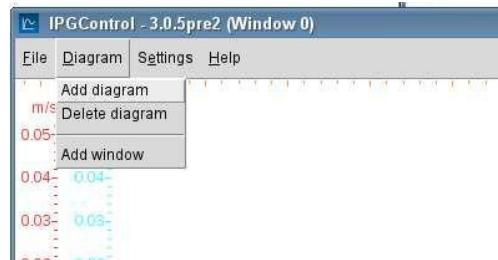

Figure 3.42: Add Diagrams to the active Data Window
- Go to *Diagram > Add Diagram* in the Data Window menu panel. To set a white background as in Figure 3.42 go to the IPGControl GUI and configure via *Settings > White Diagram Background*.